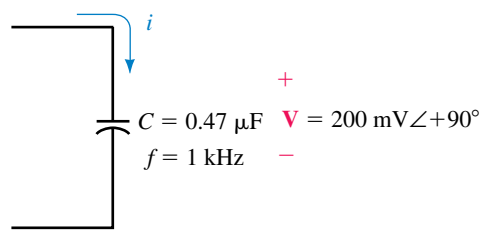

FIGURE 18-83
8. Repeat Problem 5 for the component shown in Figure 18-83.